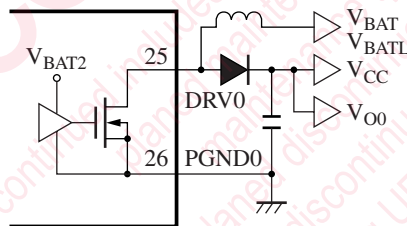

Figure 10
- (1) Output circuit is open drain configuration.
- (2) Exclusive-use for voltage step-up circuit
- (3) Output stage has built-in power MOSFET (N-ch.) and on-state resistance is 1.2Ω (max.).
- (4) Exclusive-use for IC's internal power supply and the setting voltage is 5 V.
- The circuit block of ch.0 output part and the peripheral circuit example are shown in figure 10.